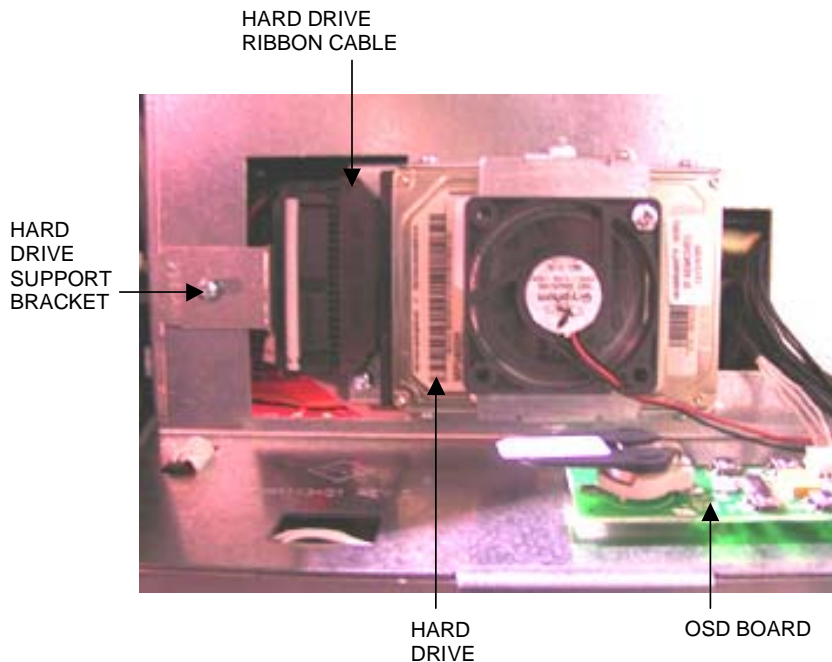

FIGURE 5 - HARD DRIVE ASSEMBLY ON ELECTRONICS BOX
3. Loosen the screw on the hard drive support bracket (if applicable) and disconnect the cables from the hard drive. See Figure 5.
3. Feed the hard drive cables and OSD board connections through the electronics box cover, then put the cover in place over the electronics box and secure it with 2 screws. See Figure 5.